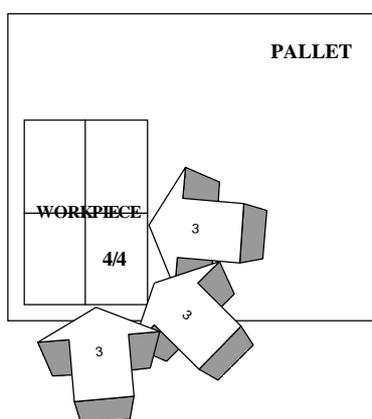

Fig 6.4 Reference 3
3. If all step approach direction are on 3/4 area on the basis of work position which is to be stacked on the pallet, select “2” as the work approach direction (refer to fig 6.4)